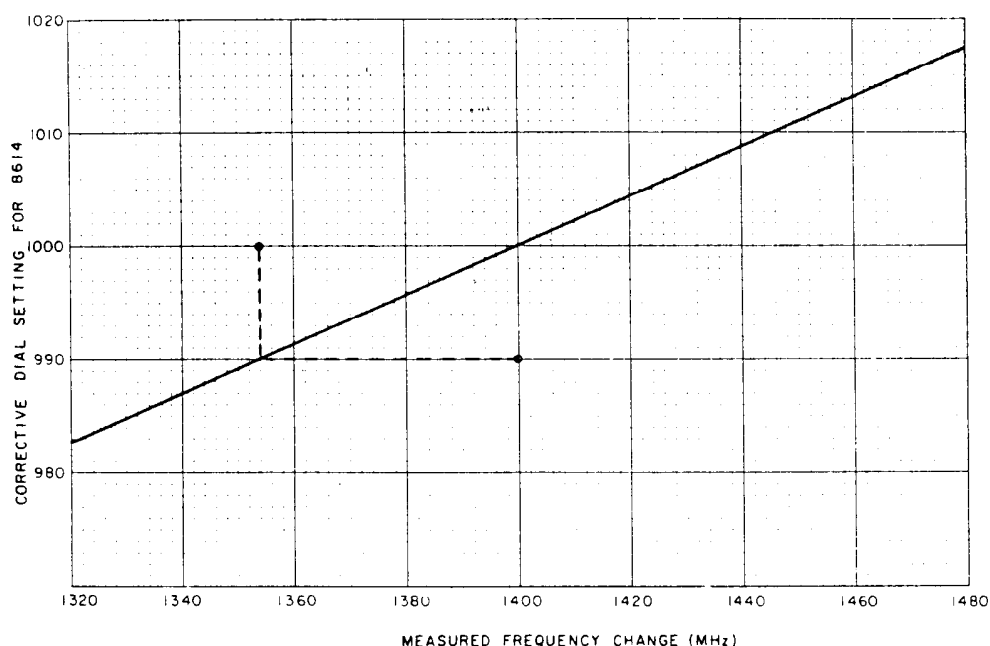
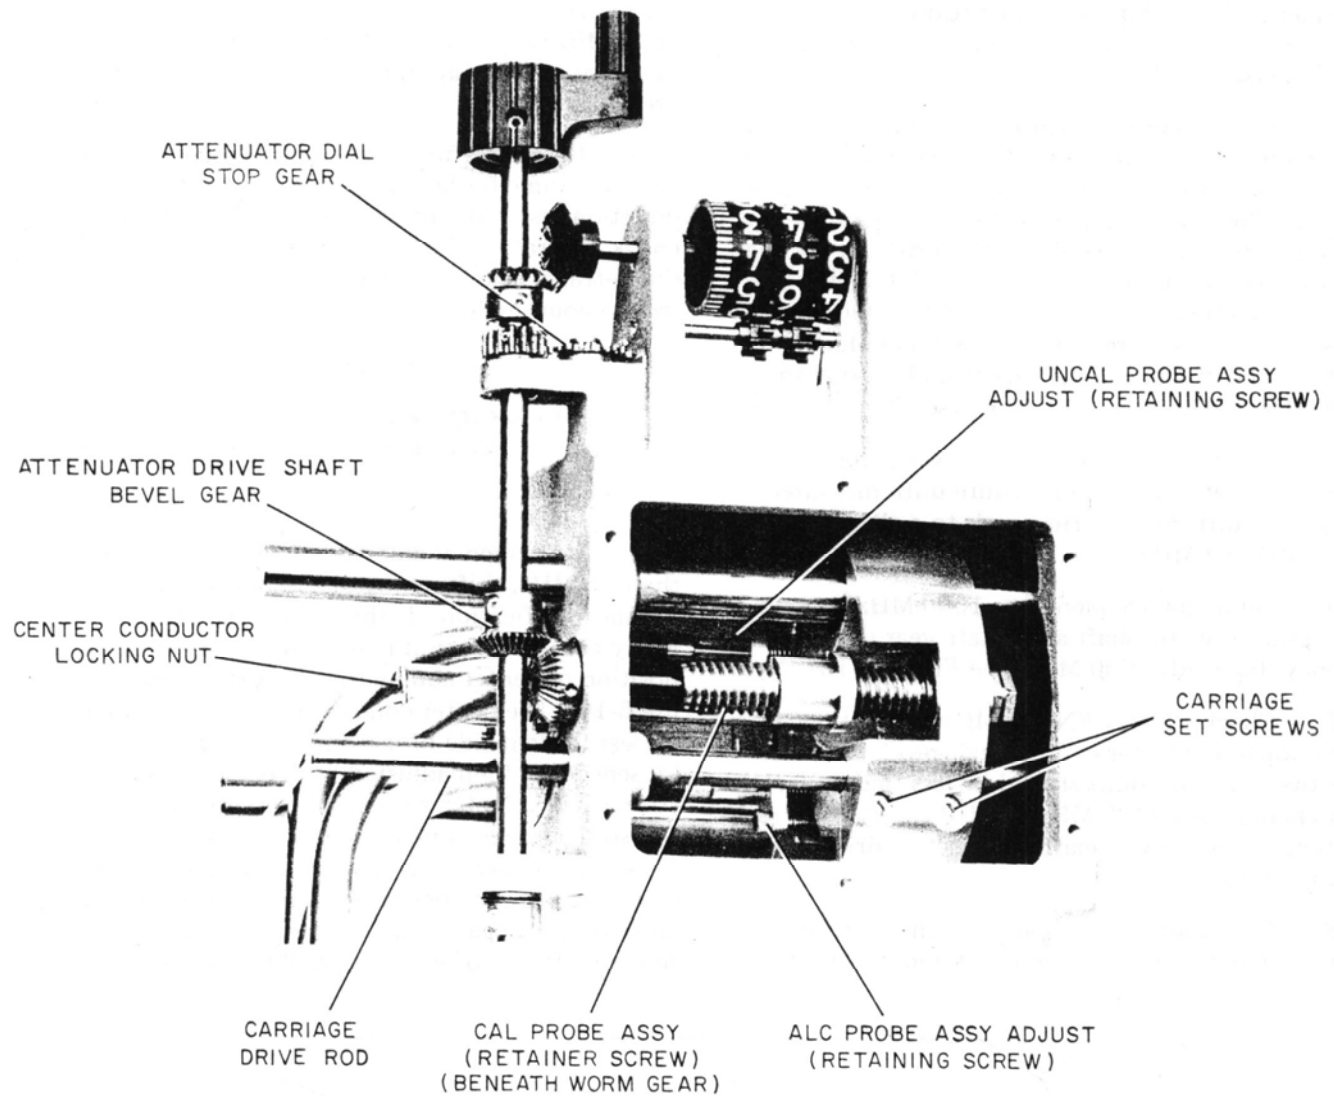

Figure 5-15. Frequency Range Spread Correction Curve
Figure 5-16. Probe Assembly Adjust
c. Refer to graph, Figure 5-15. The horizontal axis represents the measured frequency change from step b, the vertical axis indicates the dial corrective setting. For example, if the difference between dial settings (step b) is 1354 MHz, the corrective setting for the dial as found on the graph is 990 MHz. To make correction, set frequency dial to 1000 MHz, loosen the two setscrews that clamp dial plunger to rack, hold dial plunger stationary, and set dial to 990 MHz. Tighten two setscrews (see Figure 5-16).
i. If frequency dial reading errors are greater than $\pm 5 \text{ MHz}$, shifting the dial may bring all errors within specification. If shifting dial will not sufficiently correct errors, it may be necessary to shift position of center conductor support rod (see Figure 5-16). The center conductor is notched at end closest to right side of instrument and may be loosened and then adjusted "in" or "out" of klystron cavity. Notch or scratch center conductor rod so that original position may always be known. If overall frequency error was positive, adjust center conductor toward right side of instrument. If overall error was negative, adjust center conductor toward left side of instrument. When adjusting cen-